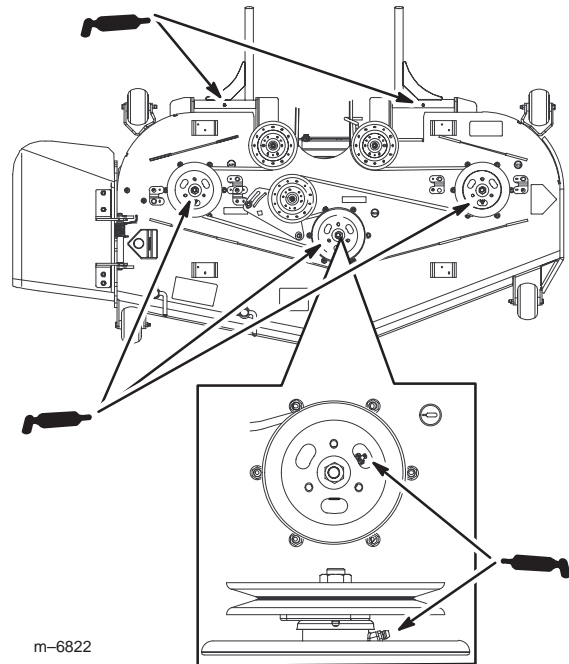

Figure 50
4. Grease the three spindle bearings under the pulleys until grease comes out the lower seals (Fig. 50).
5. Grease the fittings on the push arms (Fig. 50).